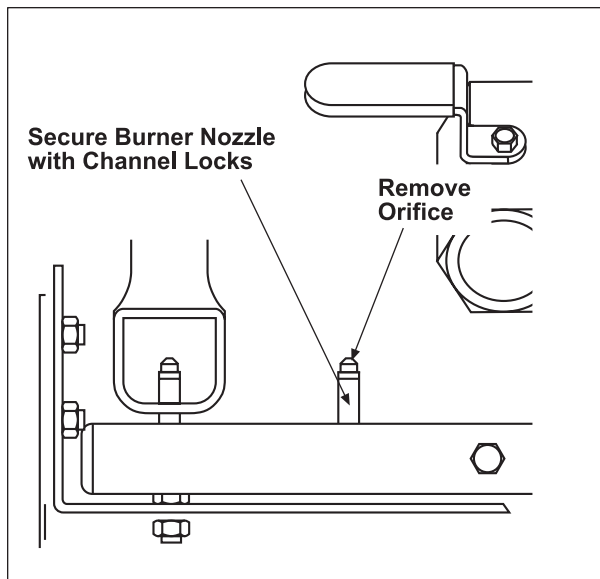

Figure 22
2. Hold the burner nozzle with channel locks and remove the orifice, (Figure 22). Check the orifice for obstructions or damage.
4. With channel locks, remove the burner nozzle (Figure 22).